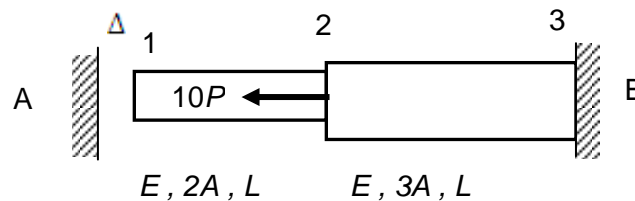

Figure 9b
- (b) Write down the element stiffness matrices and global matrix for the two bars assembly which is loaded with force $10P$ at node 2 as shown in Figure 9b. End bars are constrained at end B and free at end A with a gap of Δ at end A. Given the value of $P = 60\text{kN}$, $E = 20\text{ kN/mm}^2$, $L = 200\text{ mm}$, $A = 250\text{ mm}^2$ and $\Delta = 1.2\text{ mm}$, determine :